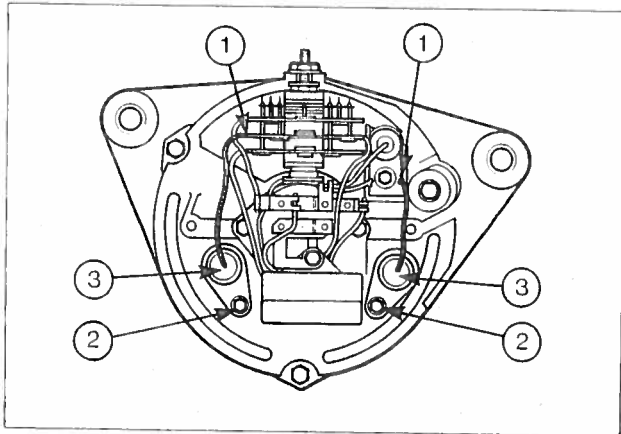

Fig. 35 Removing suppression capacitors
2. Disconnect the leads (1) at the surge diode and rectifier. Remove the two screws (2) and detach both suppression capacitors (3) – see Fig. 35.